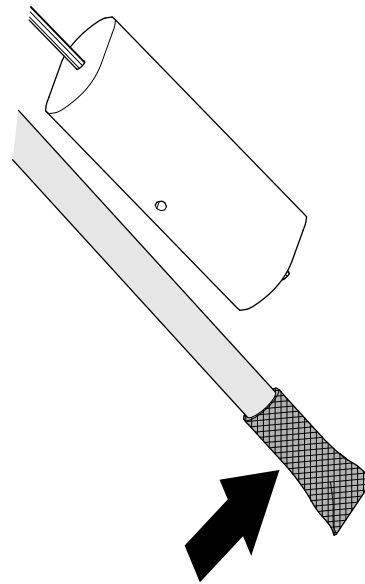

Figure 86
- 1. Clean the screen at the end of the fuel pick-up tube (Figure 86).